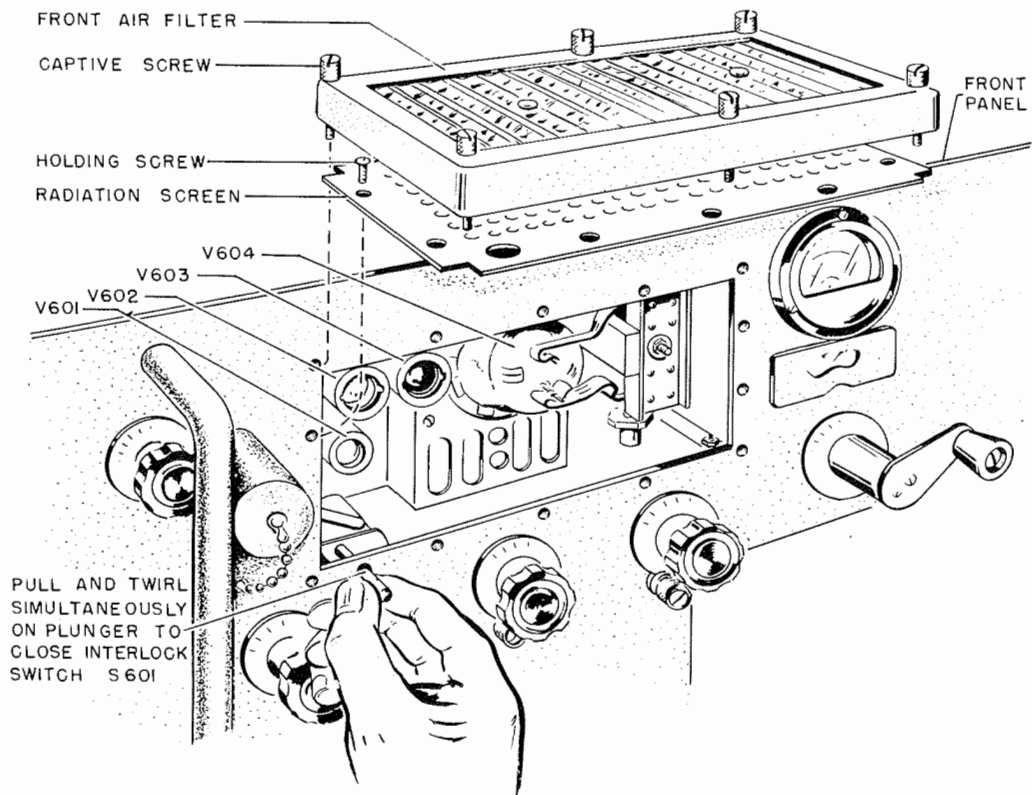

Figure 5-14. Radio Transmitter, Removal of Front Air Filter, Tube Location, and Emergency Operation of Front Air-Filter Interlock Switch
a. Remove the air filter (front of the transmitter) by loosening its captive screws. Take off the radiation screen by removing the screws holding it in place (figure 5-14). Close the front air filter interlock switch (pull out the push rod) and examine each tube within the exposed chamber to see if it is lit. Remove any tube which shows no light and replace it with one known to be good.
a. Tubes V601, V602, V603 and V604 are accessible by removing the air filter and radiation screen at the front of the transmitter (figure 5-14).
a. Replace tube V601 (figure 5-14). Replace tubes V103 and V104 (in the modulator-power supply). If the set does not work after replacing the above tubes, it requires servicing by maintenance personnel.
b. Set "METER 1 SELECTOR SWITCH" on "2." If a reading is observed on "METER 1," proceed with the next step. If no reading is observed, check tuning of "OSC & 1ST DOUBLER PLATE" control. Replace tubes V601, V602 and V603, one at a time (see figure 5-14). If the set does not operate after replacing the above tubes, it requires servicing by maintenance personnel.
c. Set "METER 1 SELECTOR SWITCH" on "3." If a reading is observed on "METER 1," proceed with the next step. If no reading is observed, check tuning of "2nd DOUBLER PLATE" control. Replace tubes V603 and V604, one at a time (figure 5-14). If the set does not operate after replacing the above tubes, it requires servicing by maintenance personnel.
d. Set "METER 1 SELECTOR SWITCH" on "5." If a reading is observed on "METER 1," proceed with the next step. If no reading is observed, check tuning of "BUFFER AMPL PLATE" and "DRIVER GRID" controls. Replace tubes V604 and V901, one at a time (figures 5-14 and 5-15). If the set does not operate after replacing the above tubes, it requires servicing by maintenance personnel.